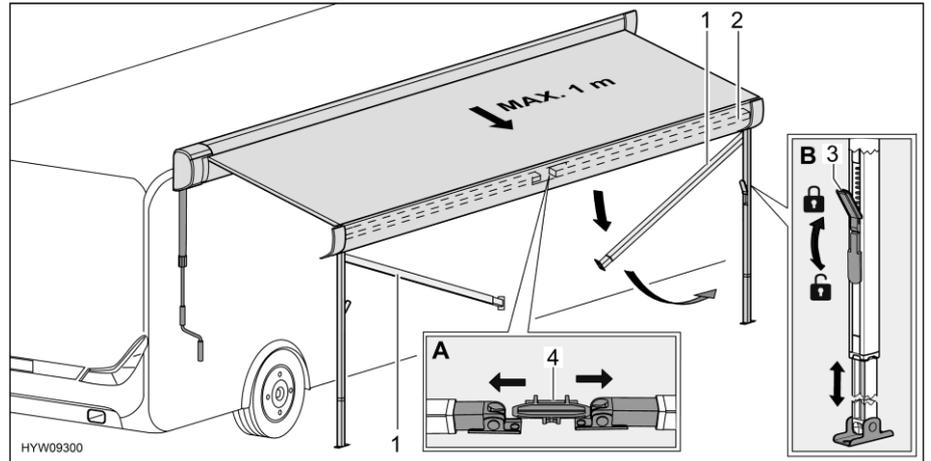

Fig. 26 Preparing support legs
- Release support legs (Fig. 26,1) from holder (Fig. 26,4) in the front bar (Fig. 26,2). In order to do this, apply slight outward pressure on the support legs (Fig. 26,A).
- Release the locks (Fig. 26,3) of the support legs. In order to do this, fold the catch lever downwards.
- Pull lower part of the support legs out to the desired length (Fig. 26,B).
- Close the locks (Fig. 26,3) of the support legs. In order to do this, fold the catch lever upwards.